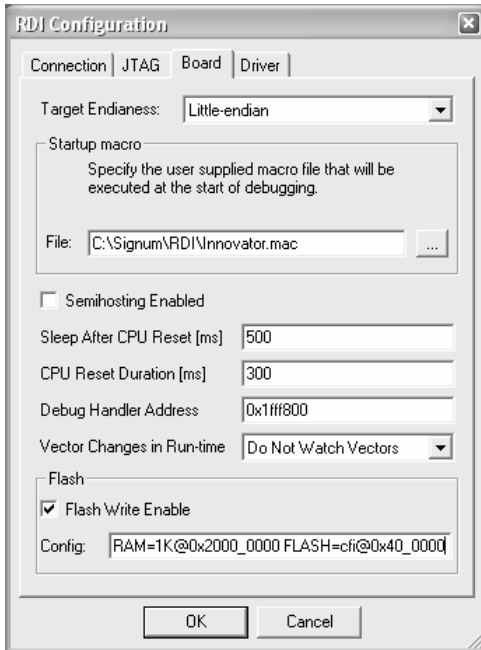

FIGURE 28 Configuring the emulator: the Board tab.
3. Click the Board tab and select the endianness of your target board (Figure 28).